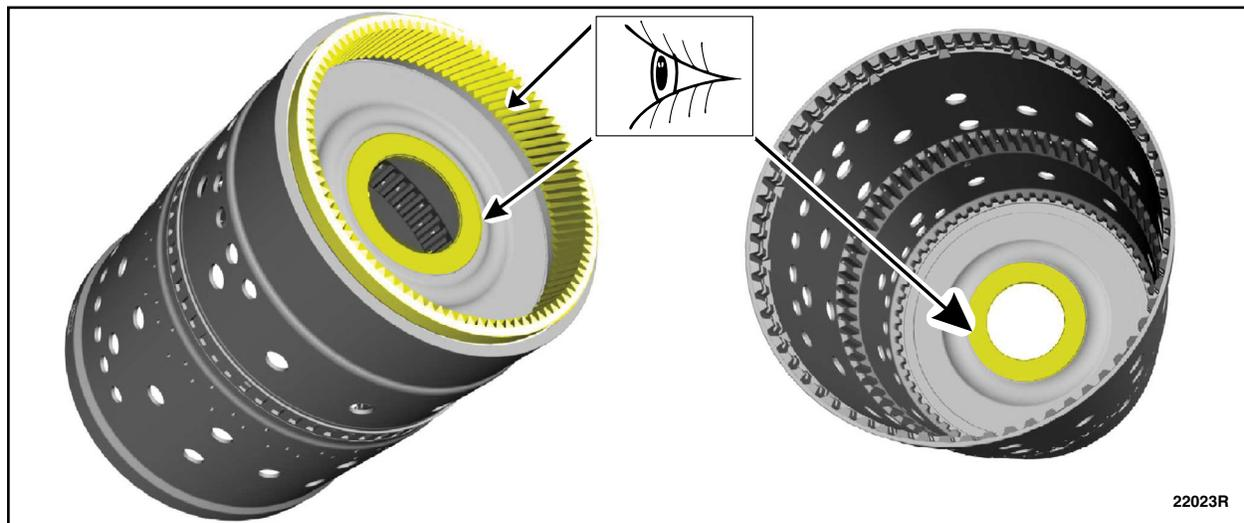

FIGURE 24
27. Inspect the No. 4 ring gear and the thrust bearing surfaces for damage. See Figure 24.